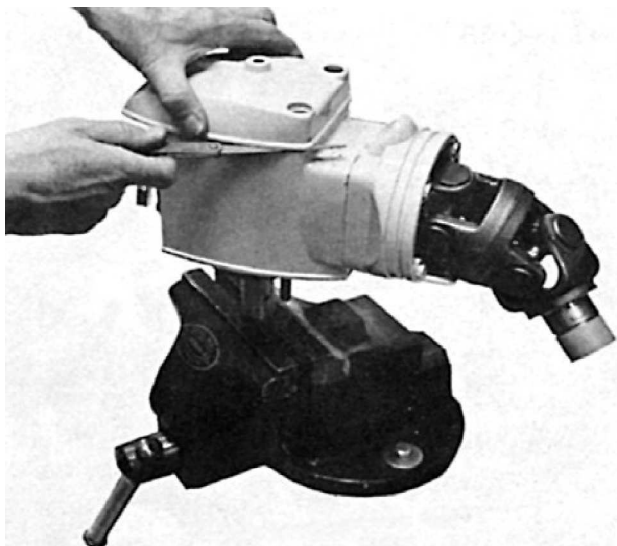

Fig. 21.
1. Fit a sufficient number of shims under the cover so that there is a clearance of max. 0.1 mm (0.004") between the cover and gear housing. Place the cover in position and press it in the right way. Measure the clearance all round with a feeler gauge. See Fig. 21.
2. Apply sealing compound and place the sealing ring (10) so that the seal for the front, right bolt fits into the recess in the cover provided for this purpose. Then fit the measured shims and tighten the cover.